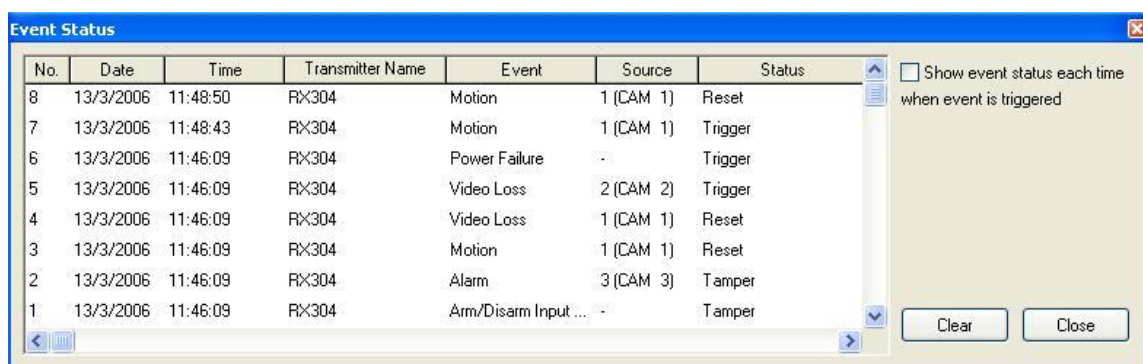

Fig 8.3.2b
Step 2 : {Event Status} panel is shown on Fig 8.3.2b.